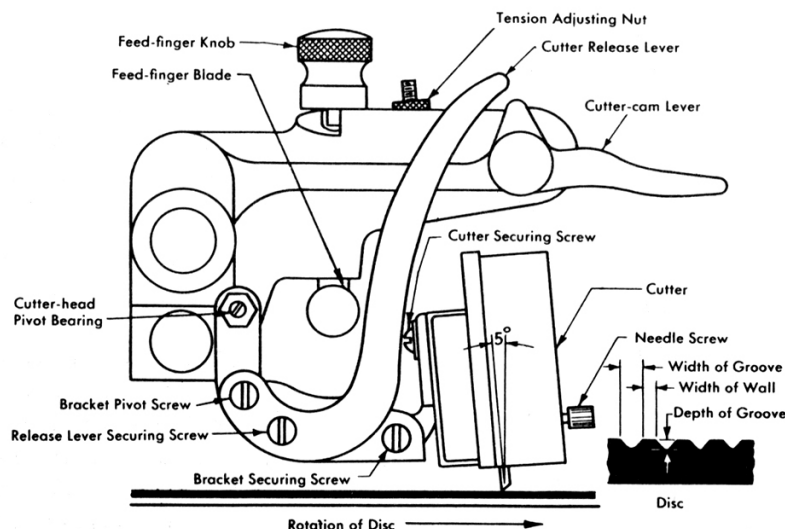

Figure 5. Cutter-head and carriage details
2. **Cutter-cam Lever (fig. 5):** The cutter cam lever is used to lower or lift the cutter head.
3. **Feed-finger Knob (fig. 5):** The feed-finger knob is used to engage and disengage the cutter carriage to and from the feed screw. To engage the cutter carriage to the feed
To adjust for a deeper groove, turn the tension-adjusting nut (fig. 5) counter-clockwise; for a shallower groove, turn clockwise.
CUTTER HEAD AND CARRIAGE (figs. 5 and 7)
in figure 5. The bracket has a cutter-release lever (20) which engages with the cutter-cam lever (19). A dashpot (14) which serves as a vertical damping device is attached to the cutter head bracket and secured in place by the dashpot mounting nut (13). The function of the dashpot is to damp out undesirable vertical vibrations of the cutter head. Depth of cut is controlled by the tension spring (29) which suspends the cutter-head bracket. Adjustment of the spring is made by the tension adjusting nut (28). The cutter head employs a resonance-damped moving-iron balanced armature.
- (1) Lead worm gear (21) and worm drive assembly gear (24).
- (2) Shift lever shoulder screw (11).
- (3) Motor oil cups.
- (4) Oil hole (25).
- (5) Cutter head pivot bearing (fig. 5).